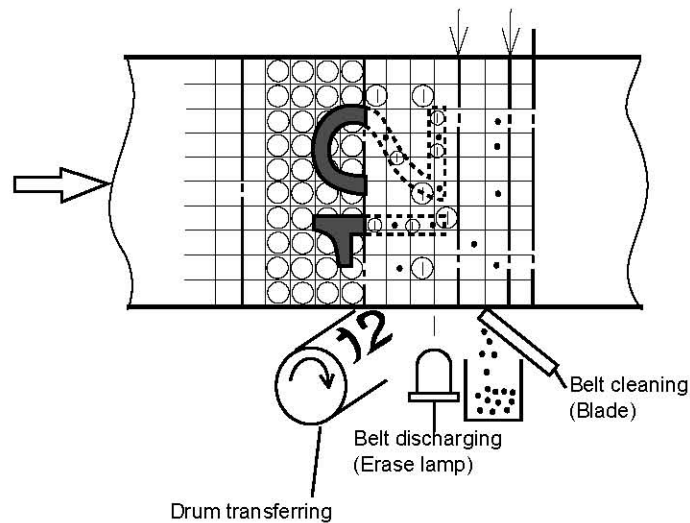

Fig. 4-20
(2) Process of Belt Cleaning (Refer to Fig.4-20.)